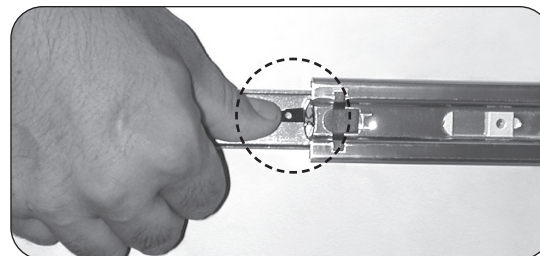

Fig. 10-2 Releasing drawer from slides
**Remove the drawer:** Completely pull out the drawer. Release the drawer from the drawer slides by pressing the black lever down on the right side, and up on the left side (Fig 10-2). Then pull outward on the drawer until it comes free of the runners.